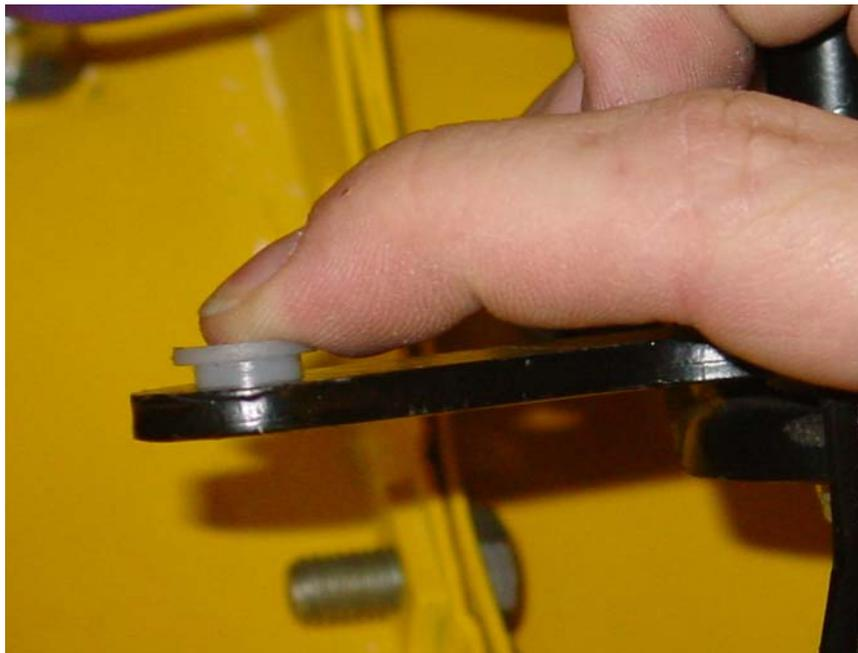

Figure 9 - Installing the Bushing
4. Insert one of the two supplied nylon bushings into the bellcrank of the RS headlight assembly from the top as shown in Figure 9.